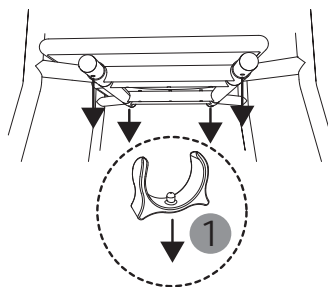

Fig. 22
1. Remove the four mounting clips from the plug-in tubes (1, Fig. 22).